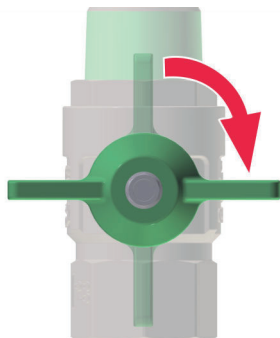

Fig. 48: Closing the ball valves
1. ➔ Close all the ball valves (Fig. 48).